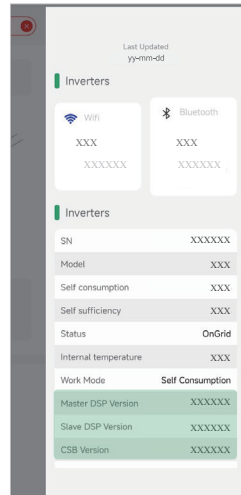

Figure 31a: Verify version number
3. Set the grid voltage type: Go to **Settings** > **General** > **Grid voltage type** > **UL 2/3 Phase** > **Ok**. (Figure 31a)